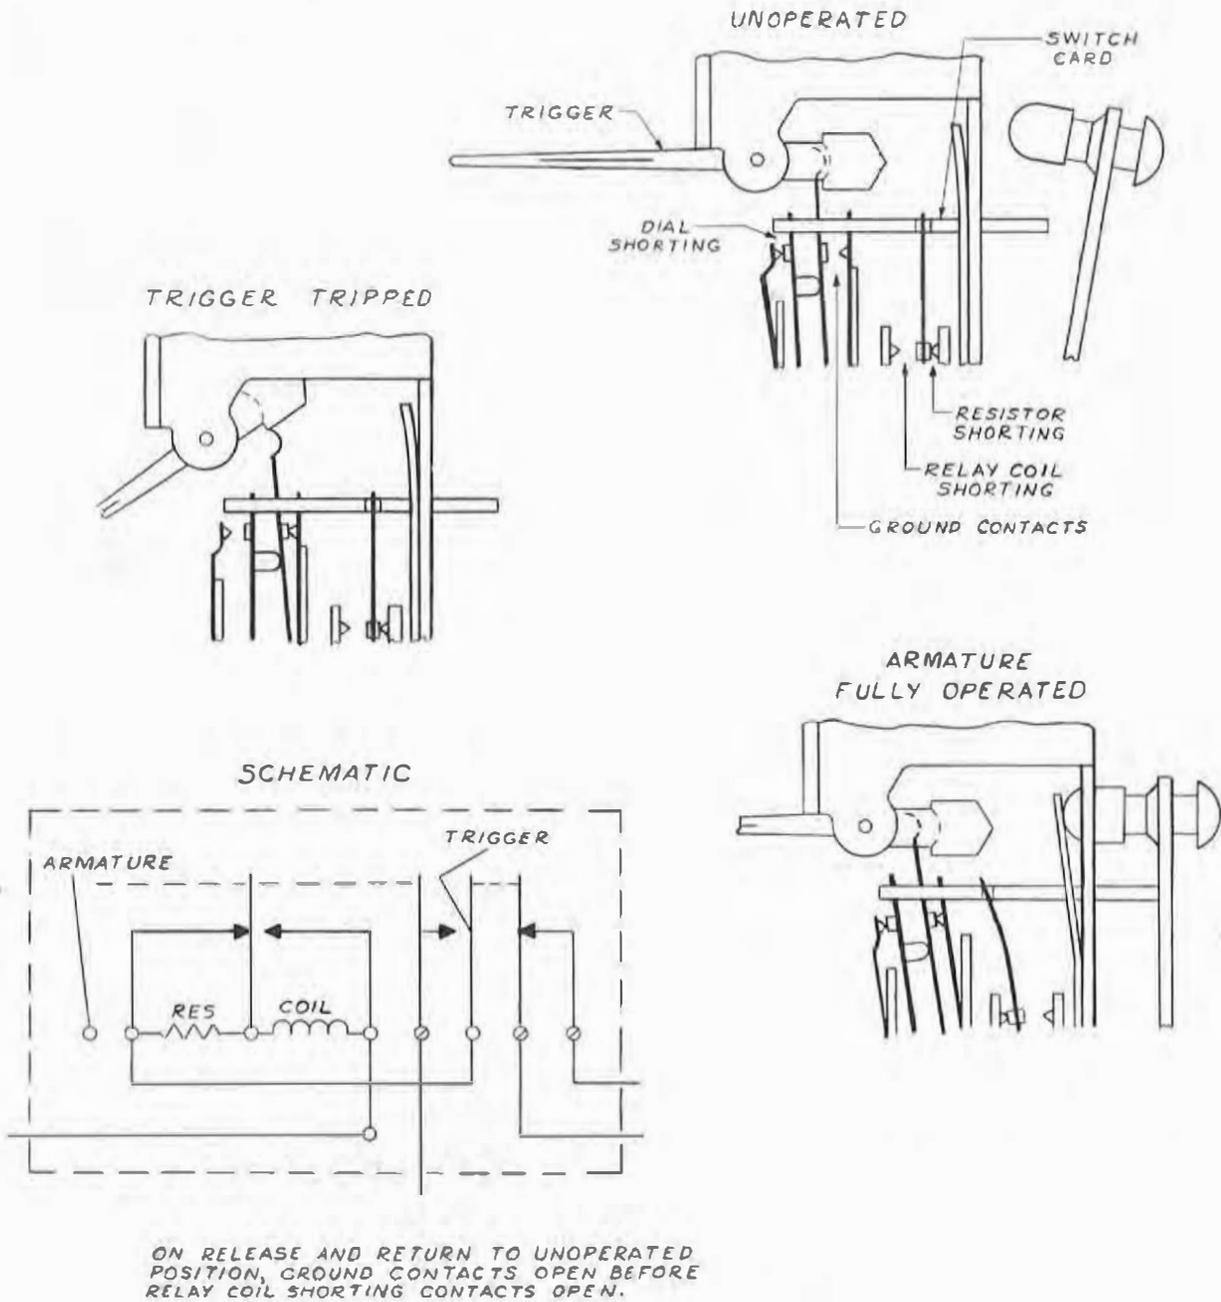

Fig. 2 - Contact Spring Assembly
- (1) With trigger tripped, ground contact springs shall make firmly. Check visually and by feel with orange stick. (See Fig. 2.)
- (2) Connect hand test set across line terminals of coin collector and trip trigger. Dial tone shall be heard in dial areas, or operator shall answer in manual areas. If not, proceed as follows: